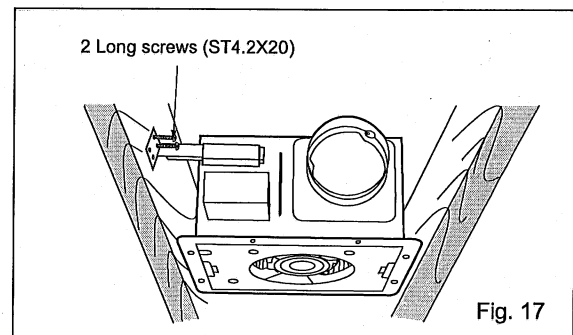
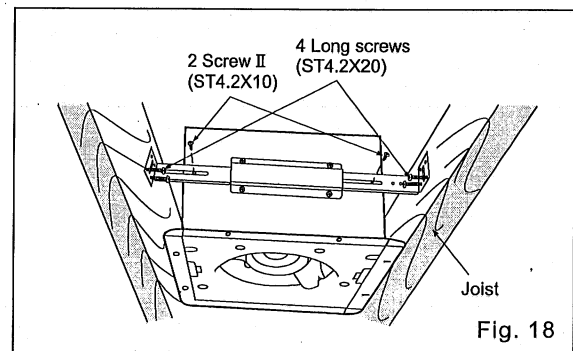

Fig. 17
Fig. 18
4. Secure the suspension bracket to joists by using long screws (ST4.2X20) (Fig. 17, Fig. 18)
5. Secure the suspension bracket to fan body by using screw II (ST4.2X10) (Fig. 18)